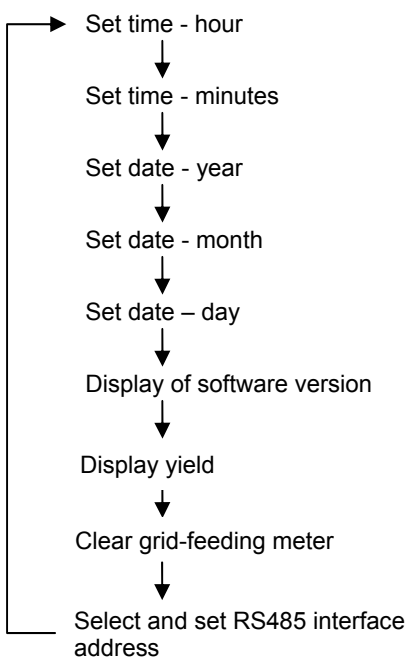

Figure 4.5: Set Mode Menu
To go to level 2 (Set Mode), keep the “Display” key (1) pressed and simultaneously press the “Adjustment” (2) key for approx. 1 second. Using the “Adjustment” key (2) you may now change the selected parameter. Depending on the parameter the value will change after pressing the “Adjustment” key (2). The various setting parameters are shown in Figure 4.5.